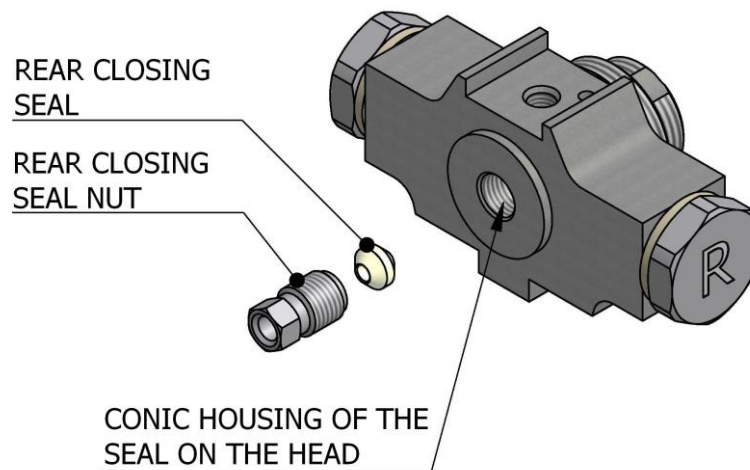

Figure. 17
6. Loosen the rear seal nut completely by turning it anti-clockwise (see **Figure. 17**).
7. Remove the rear closing seal and clean it with gun-cleaning solvent or replace it if it is very worn (see **Figure. 17**).
18. Completely unscrew the nut of the rear closing seal by turning it clockwise (see **Figure. 17**, page 16).